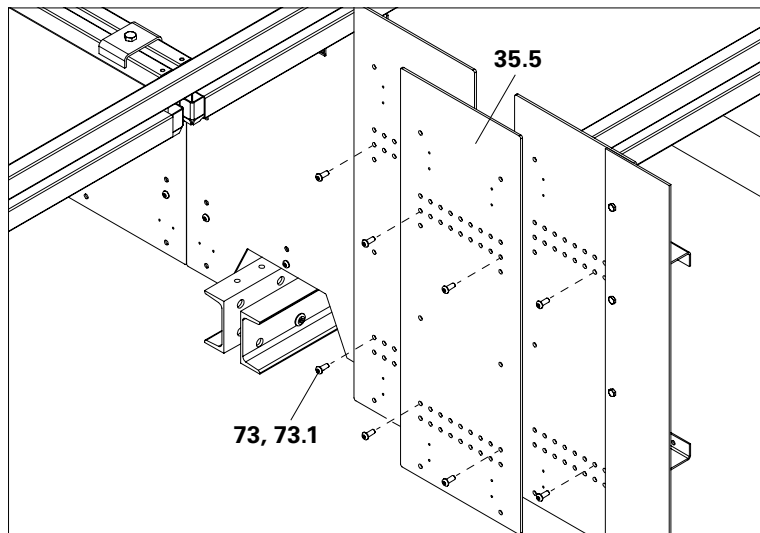

Fig. C2.02
4. Mount Platform Covers (35.5) on Platform Beams using Oval-Head Screws ISO 7380 M10x25-10.9 (73) and Nuts ISO 7040 M10 (73.1). (Fig. C2.02 + C2.03)